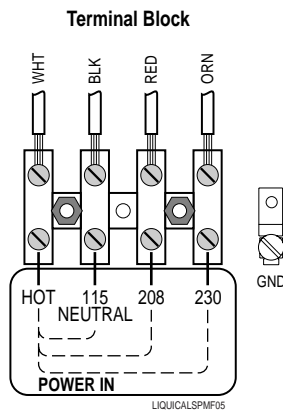

Figure 5. Power Terminal Block
2. Connect an appropriate power cable to the power terminal block as shown in **Figure 5**.